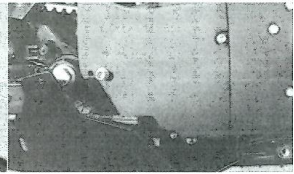

Figure 2.8 Install belt cover.
5. Reinstall drive belt cover using the socket head cap screws from stock. Use a 3/16" and 5/16" hex key wrench. (See figure 2.8)